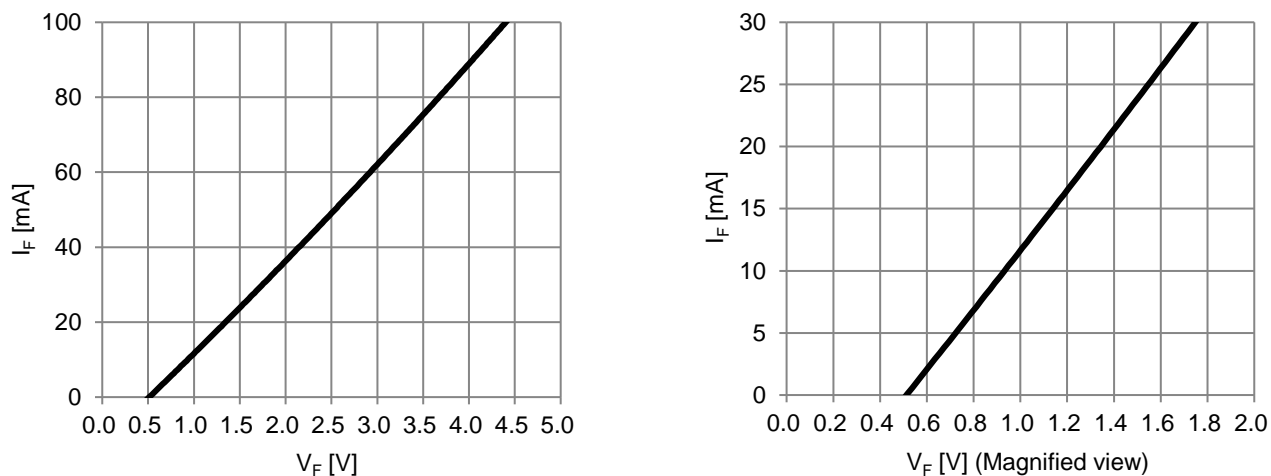

Figure 2. Built-in Bootstrap Diode VF-IF Characteristic (@TA=25°C)
- The characteristics of bootstrap diodes are described in Figure 2.